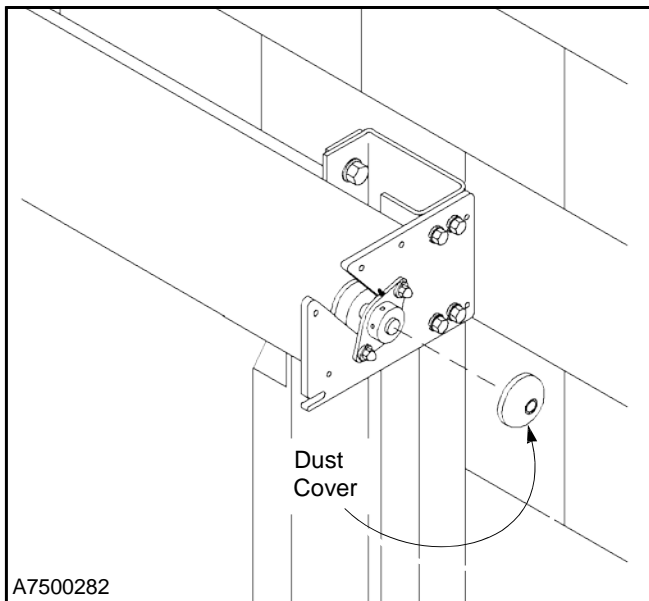

Figure 27
10. Install the dust cover on the drive bearing. (See Figure 27.)